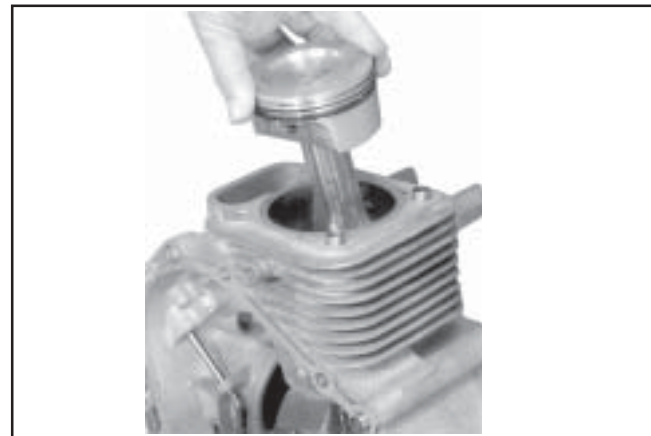

Figure 9-72. Removing Piston/Connecting Rod Assemblies.
2. Carefully remove the connecting rod and piston assembly from the cylinder bore. See Figure 9-72.